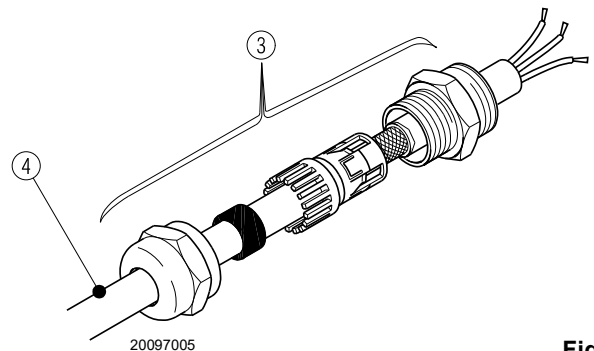

Fig. 31
- Shield the cable 4) running from the VSD (inverter), as shown in Fig. 31 and using the coupling 3);